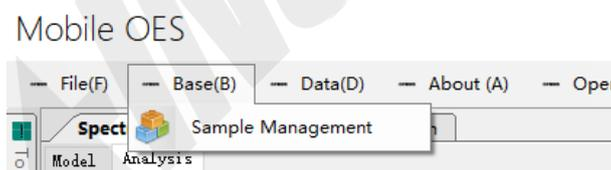

Figure 4-4 Sample management
Step 1 Click “Sample Management” in “Base” in the menu bar of the analysis software, as shown in Figure 4-4: